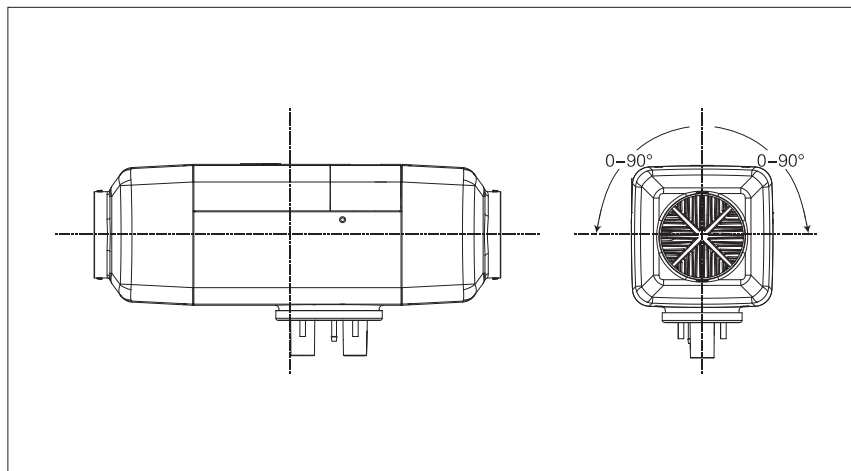
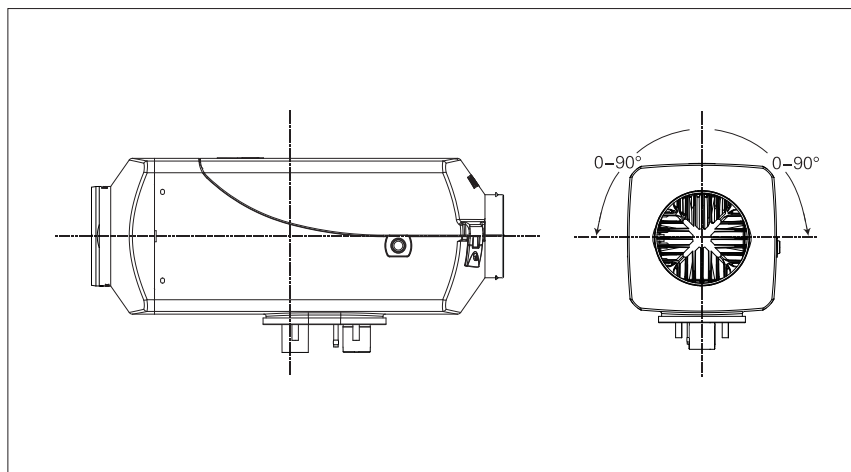

Fig. 15 (W)
Fig. 16 (E)
4.2.5 - The installation direction of the main heater is as shown in Fig. 15 and Fig.16. It must be noted that the tilt angle has to be exactly 90 degrees on both sides, otherwise, it will affect the normal operation.